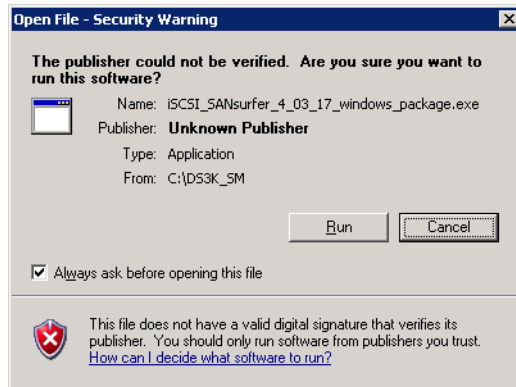

Figure 21-9 Open File- Run
2. Execute the self-extracting archive package iSCSI\_SANsurfer\_4\_03\_17\_windows\_package.exe. Click **Run** to start the execution, as shown in Figure 21-9.